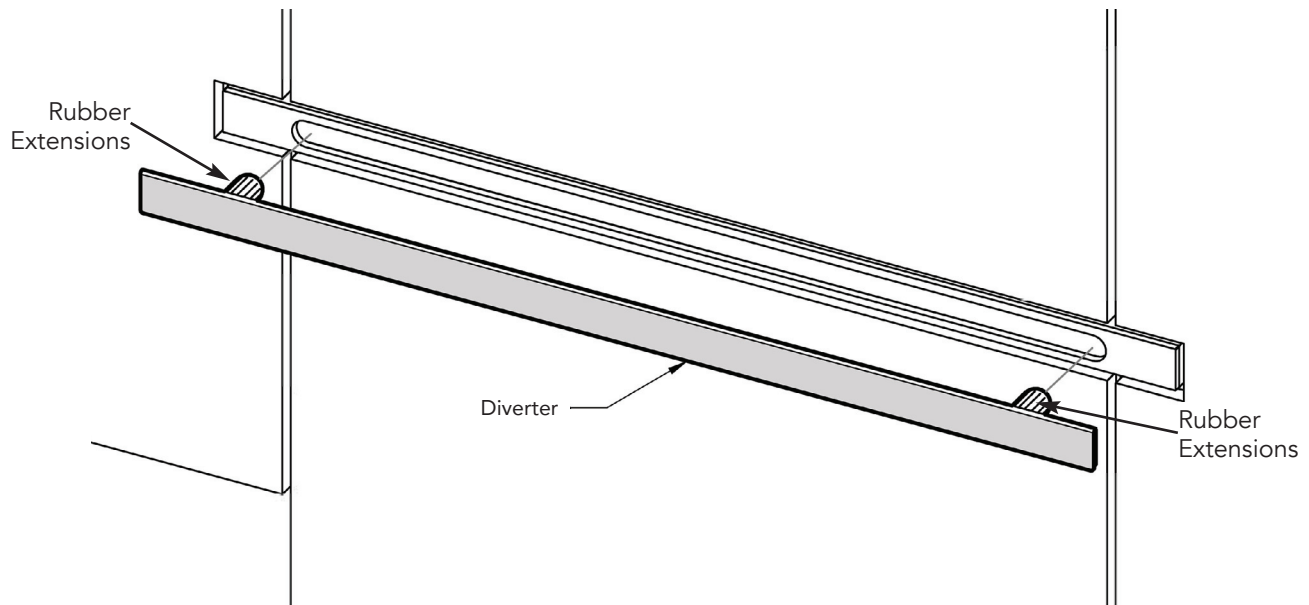

Figure 7
**STEP 1.** Securely press the two rubber extensions into the opening of Linear Steam Head and push in firmly until the diverter is securely in place. (see Fig. 7).